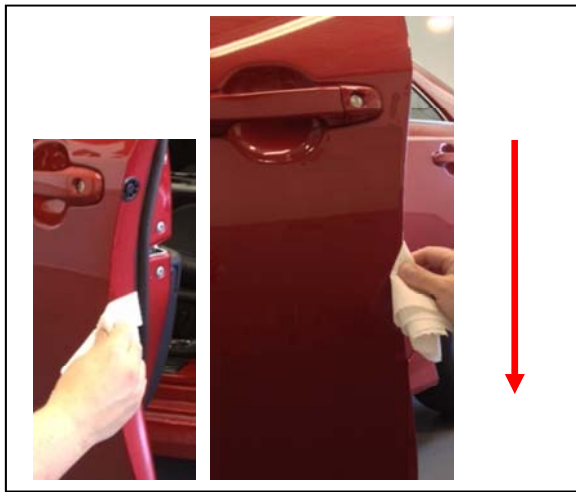

Fig. 1-2
- b. Using the second lint free cloth, thoroughly dry the area free of Simple Green (or VDC approved cleaner) previously applied. In some instances a rubber weather seal may be found – ensure to clean between the trailing edge and rubber seal (Fig. 1-2). Turn the cloth repeatedly to attain a dry surface.